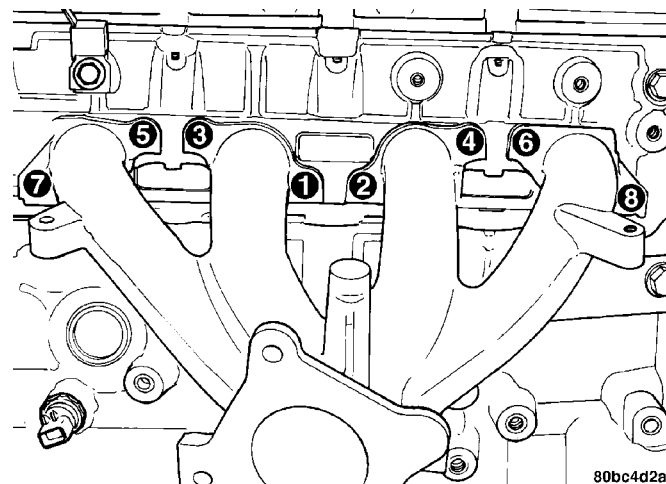

Fig. 145 Exhaust Manifold Tightening Sequence-Typical
- (1) Position exhaust manifold and gasket in place.
(2) Install exhaust manifold bolts and tighten in sequence shown in (Fig. 145) to 23 N·m (200 in. lbs.).